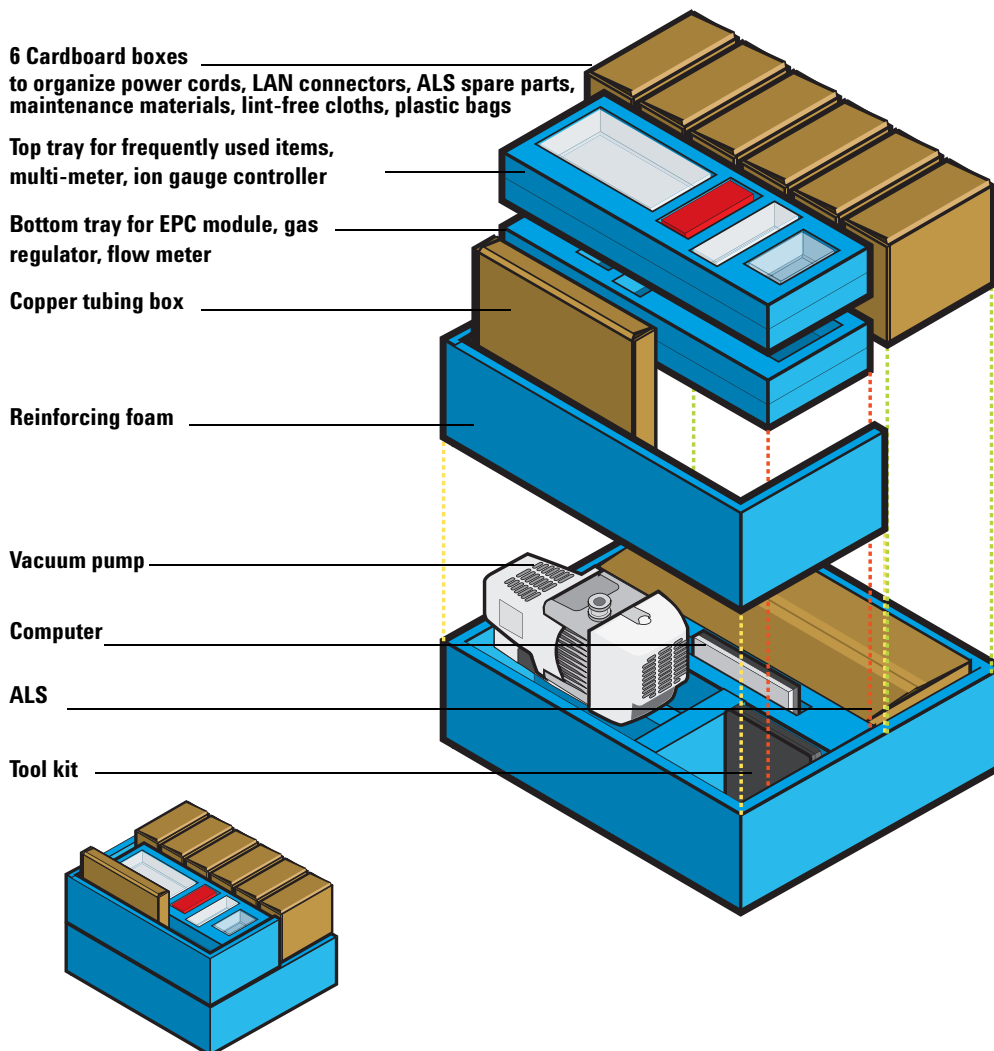
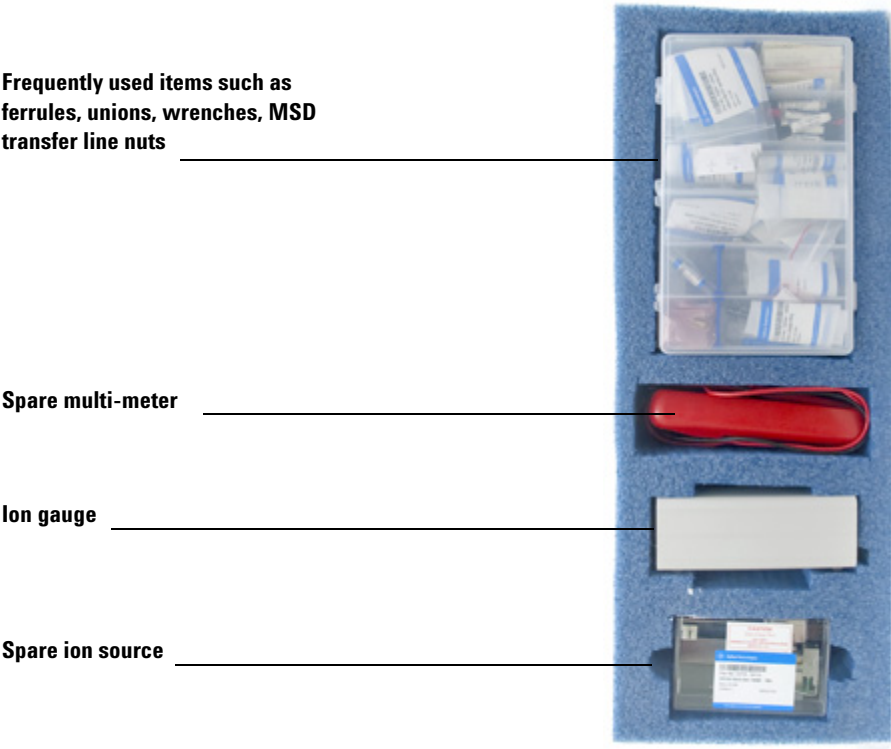
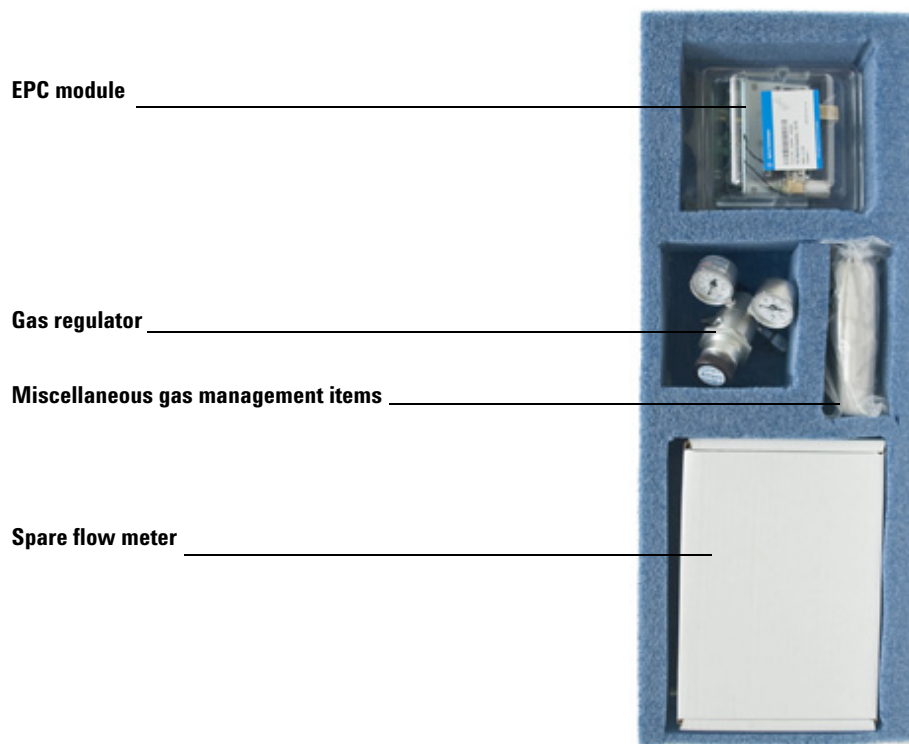

Figure 9 Recommended packing order of the 5975T LTM GC/MSD accessory container
Figure 10 An example of the packing configuration for the top tray of the 5975T LTM GC/MSD reusable shipping container
Figure 11 An example of the packing configuration for the bottom tray of the 5975T LTM GC/MSD reusable shipping container
- 3 Open the LTM column module door and remove the MSD guard column that runs between the LTM column module outlet and the MSD transfer line. Place it in a plastic bag, then into one of the cardboard boxes in the reusable accessory box. See Figure 9 on page 70.
After the system has been readied and placed under vacuum as described in “Preparing the System for Transport” on page 65, disconnect the removable parts listed below. Carefully pack these parts in the reusable accessory container. (See Figure 9 for a recommended packing order.) During the process, remember, the instrument must remain upright at all times.
- f Put the ALS into its original ALS shipping cardboard box, and place it in the compartment at the bottom of the reusable shipping container. See Figure 9 on page 70.
- e** Place the foreline pump in space provided for it in the bottom of the reusable shipping container. See Figure 9.
- d** Coil the tubing line and put it in the cardboard box designed for the copper tubing. See Figure 9 on page 70.
- e Place the gas regulator in the bottom tray. See Figure 11 on page 72.
- 11 Store miscellaneous items, such as consumables, the EPC module, multi-meter, ion source, and flow meter in the top and bottom trays of the reusable accessory shipping container. See Figure 9 on page 70, Figure 10 on page 71, and Figure 11 on page 72.
Figure 9 shows Agilent's recommended packaging order for this container. Modify this configuration as required for optional spare parts and tools that you are transporting with your system.